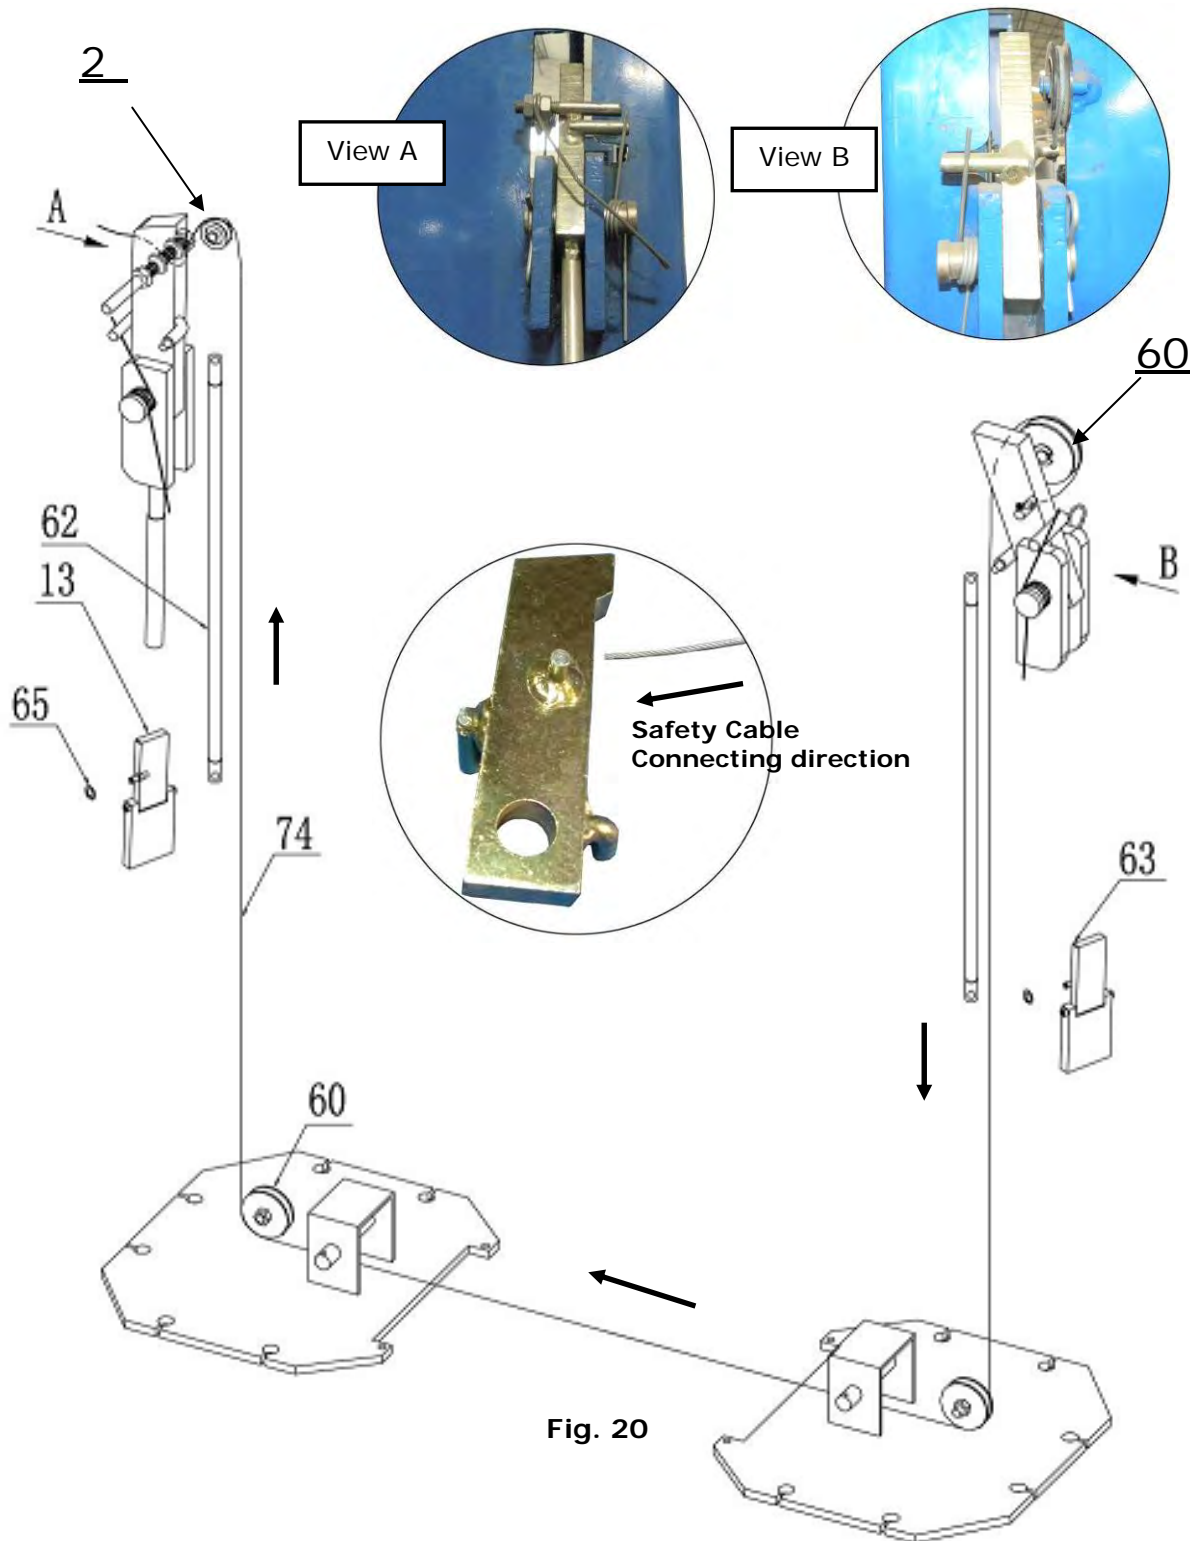

Fig. 20
L. Install Safety Device and Safety Cable (See Fig. 20).